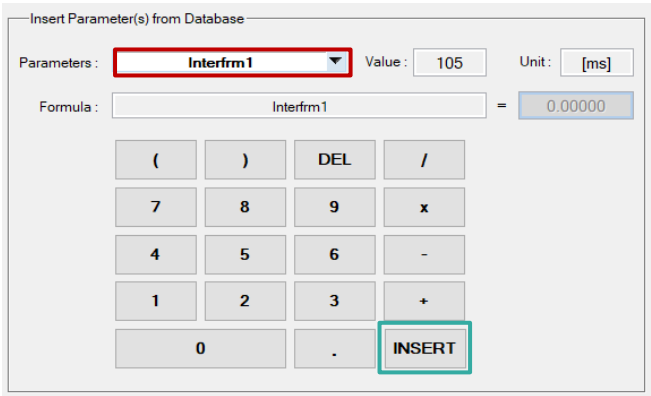

Figure 7. Numeric keypad for Test script Creation
- (1)
- (2)
- (3)
- (4)
**Numeric keypad:** the numeric keypad, presented below in the Figure 7, allows you to enter the value of a parameter (Time, Duration, Pressure...).